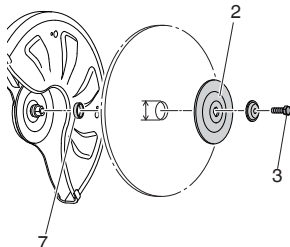

Fig. 9
- When using a wheel with an arbor hole of 25.4mm, securely attach the adapter collar (7) to the spindle. (**Fig. 9**)